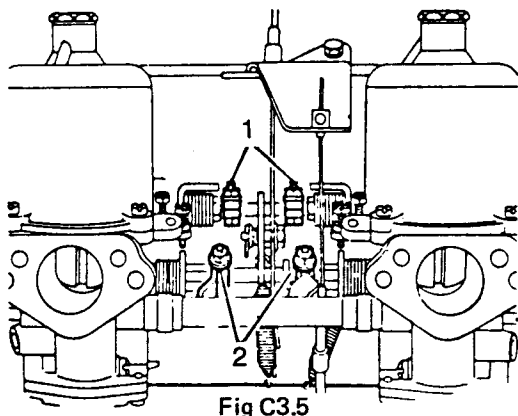

Fig C3.5
- (9) Refer to Fig C3.5. With the fast idle cams (2) of each carburetter against their respective stops, set the cold start interconnections so that all cams begin to move simultaneously.
- (10) With the fast idle cams against their stops check that a 1,5 mm free movement of the mixture control (choke) cables exists before the cable moves the cams.
- (11) Pull out the mixture control (choke) until the arrow marked on the cam is positioned under the fast idle adjusting screw of each carburetter.
- (12) Using the listening tube to ensure equal adjustment, turn the fast idle adjusting screws to give the correct fast idle speed.